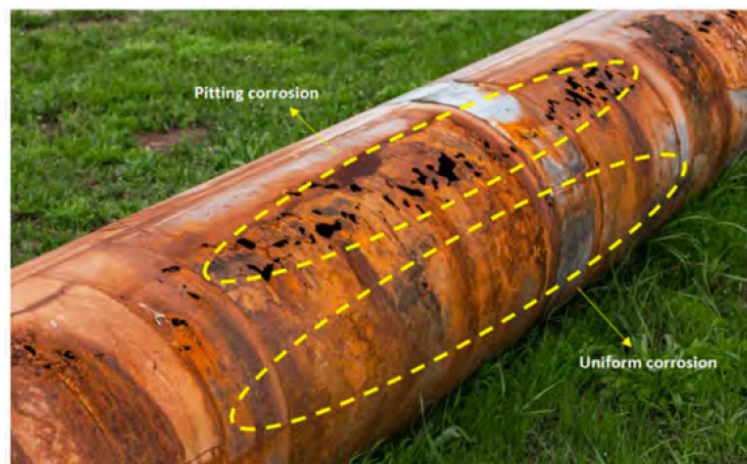

Fig. 5.8: Pitting corrosion on pipelines
- **(Fig. 5.8):** Pitting corrosion on pipelines.